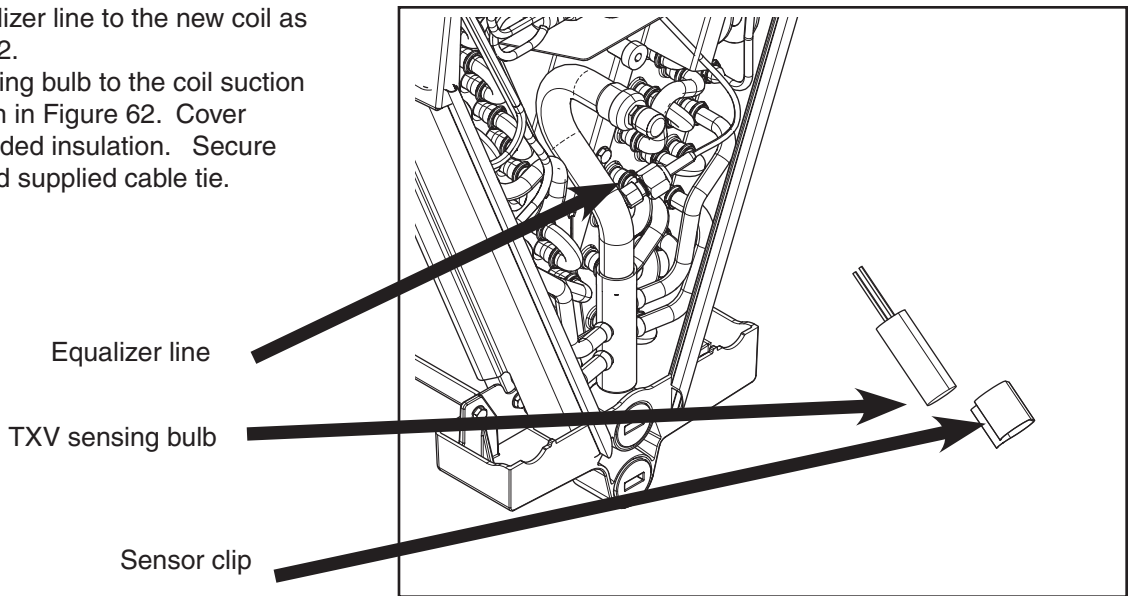

Figure 62 – Attach sensing bulb
12. Connect the equalizer line to the new coil as shown in Figure 62.
12. Clip the TXV sensing bulb to the coil suction line tube as shown in Figure 62. Cover with piece of provided insulation. Secure insulation with field supplied cable tie.